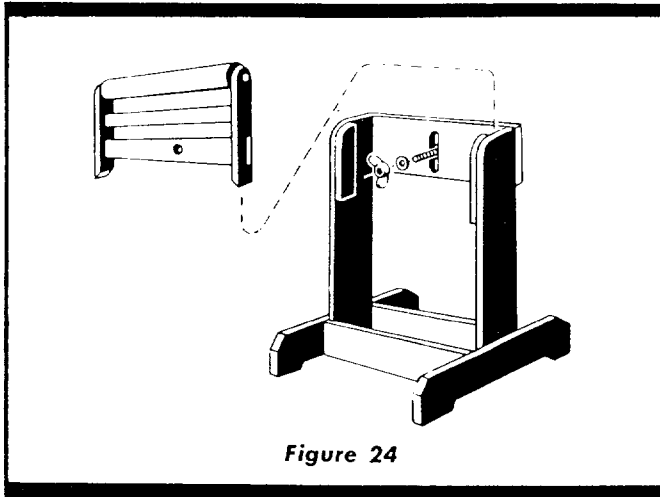

Figure 24
9. The cut is then made by pulling the carriage forward until saw blade cuts through the work. When the cut is complete, the saw should be returned to the back of the radial arm and the switch turned "OFF". **When more experience is gained by using the saw, it will be noticed that when pulling the saw forward during cross-cutting, the saw blade tends to feed itself through the work due to the rotation of the blade and the direction of feed. Therefore, the operator should develop the habit of holding his right arm straight from the shoulder to the wrist. After using this method a few times, the operator will find that it is necessary to roll or rotate the body from the waist up. It will soon become apparent that very little effort is required to move the saw blade through the work, and in most cases, the right arm is used merely to control the rate of feed. It will also be discovered that when cross-cutting a thick board, movement of the saw through the work must be retarded. By holding the right arm (right hand normally grips the saw handle) straight, the operator can easily control the rate of feed, thus preventing the saw blade from overfeeding and stalling the saw motor, which must be avoided whenever possible. In some cases it may become necessary to cross-cut boards that extend over the saw table on one, or both sides. This can buckle the board and bind the saw during the cut. To eliminate this condition the ends of the board should be supported. Figure 24 shows a typical support that can be easily constructed to facilitate cross-cutting of long boards.**
The board must be fed into the saw blade from the right side of the table. Therefore, the normal position for the operator is at the right side of table. With the left hand, safely clear of the blade and holding the board down against the table and rearward against the fence, use the right hand to feed the board into the saw. The left hand should remain stationary, serving as a guide only. As the right hand approaches the left hand, use a push stick in the right hand to complete the cut. Do not leave a long board unsupported so that the spring of the board causes it to shift on the table. (See figure 24.)